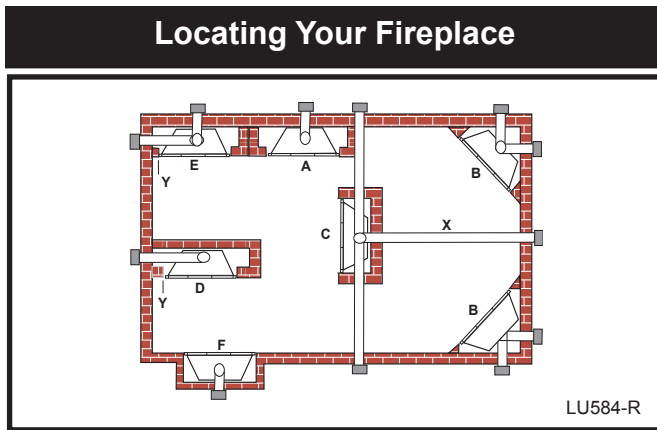

Fig. 4 Locate gas fireplace.
**NOTE:** (Fig. 4)
\* When you install your fireplace in (D) Room divider or (E) Flat on wall corner positions (Y), a minimum of 6" (153 mm) clearance must be maintained from the perpendicular wall and the front side edge of the fireplace. Refer to (Y) in Figure 4.
3. Make sure framing for firestop is correct. **NOTE:** Firestop is for combustible walls. Refer to firestop framing instructions on Pages 4 and 12, Figures 4 and 17.